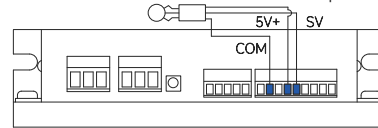

Figure2
- External potentiometer: Please use a suitable potentiometer with a resistance value of 10K . -Figure 2.